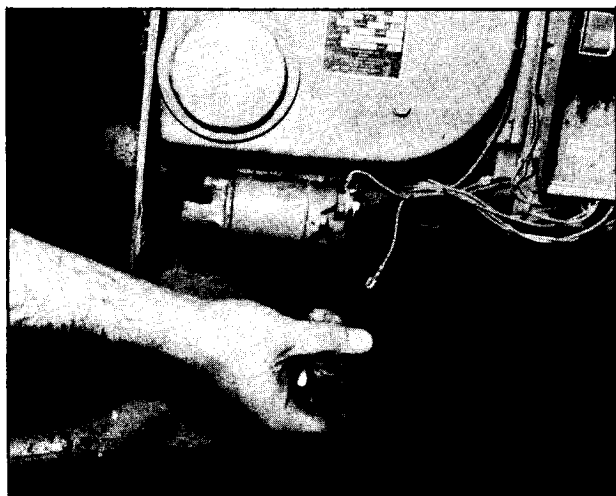

Figure 1.
2. Disconnect the wires from the motor generator starter motor solenoid (see Figure 1).